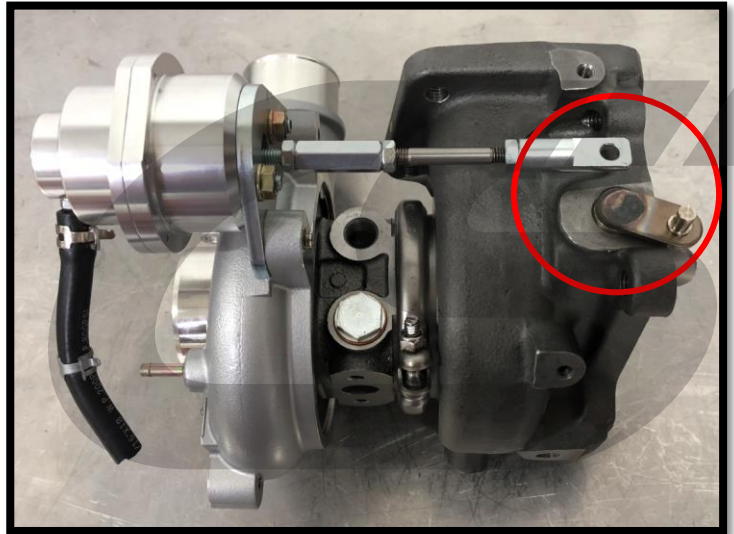

Figure 1c
- d) Remove the end of the wastegate actuator arm from the wastegate flapper arm. Shown removed and circled in red in **Figure 1c**.